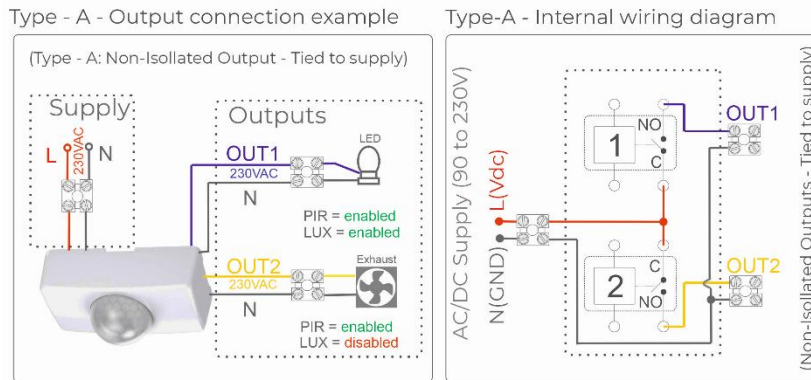

Figure 4 – Output relay config & connections
- MP-AC1-R2-Gen2 relay outputs are type-A (tied to input supply) (see figure 4)